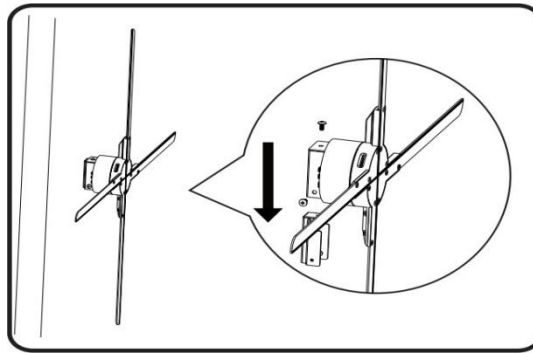

Figure 1-3
- 4、 Insert the display device into the fixing part and lock the screws to complete the installation, as shown in Figure 1-3.